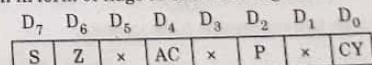

Fig. 2.4.1. Flag register.
- A. Flag register :** It is 8-bit register in which five bits carry significant information in form of flags as shown in Fig. 2.4.1.